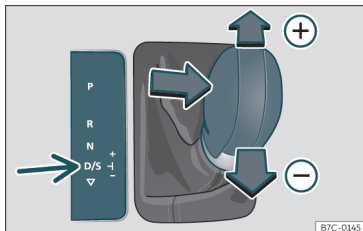

Fig. 198 Centre console: changing gear with tiptronic
- Move the selector lever forwards (+) to select a higher gear >>> **Fig. 198**.